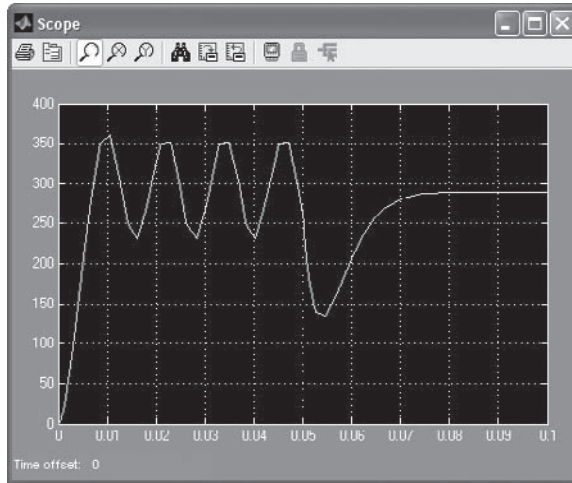

**Figure 10.4–9** Simulink model of a relay-controlled motor.
1. Select and place in the new window the Step block from the Sources library. Label it Disturbance Step as shown in Figure 10.4–9. Double-click on it to obtain the Block Parameters window, and set the Step Time to 0.05, the Initial and Final values to 0 and 3, and the Sample time to 0. Click **OK**.